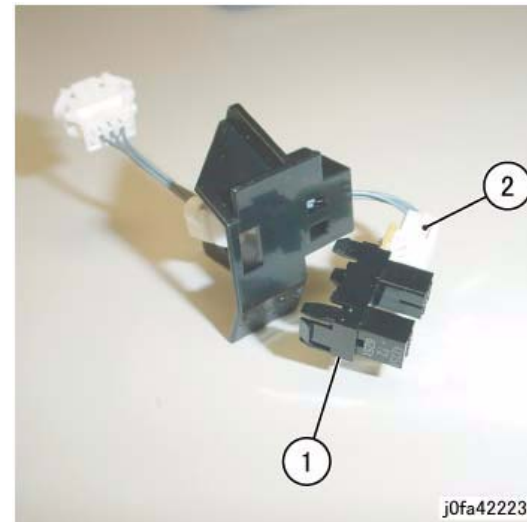

Figure 3 Removing the Set Clamp Home Sensor
7. Remove the Set Clamp Home Sensor (Figure 3):